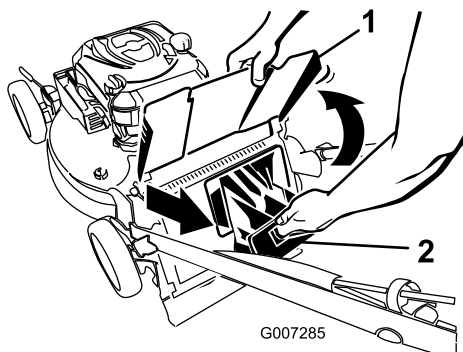

Figure 21
2. Raise and hold up the discharge deflector (Figure 21).
3. Pull out the rear discharge plug (Figure 21).